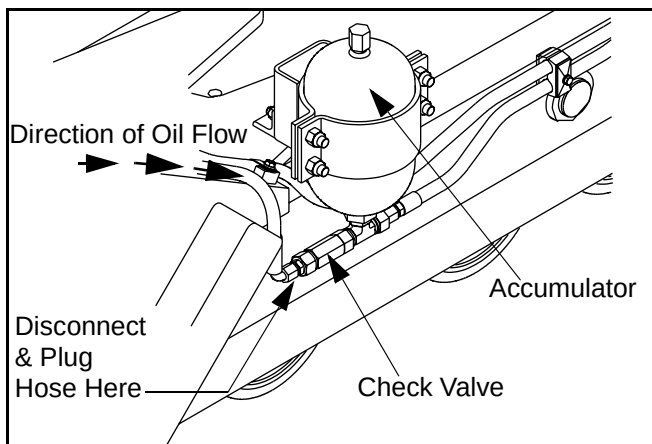

Figure 5 - 43 Track Tension Accumulator
- 1) Install pressure gauge (3000 psi) at test port marked BTM on the Track Tension Release Valve (Figure 5 - 44).